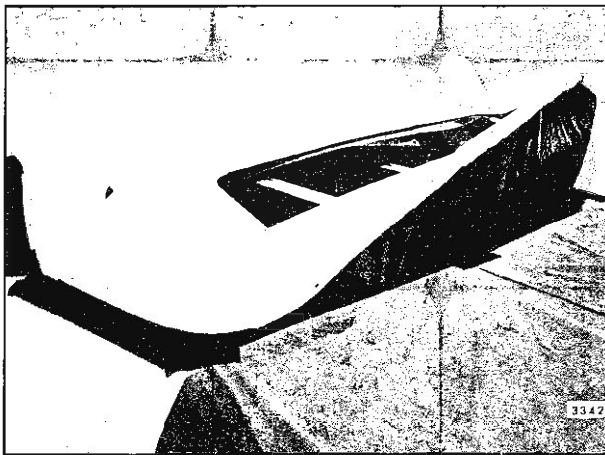

Fig. 13-33—Raising Balance of Trimstick "A" Styles
On "A" styles, with top two to four inches off header, move one end of trimstick inward for clearance. Then pry it upward between hinge and body to clear rear roof rail (Fig. 13-32). Raise removed end of trimstick upward and forward. Then continue by removing balance of trimstick above body belt line (Fig. 13-33 and 13-34).
- Position rear trimstick(s) into body in reverse of removal operation (See Steps 10 & 11 of Removal of Folding Top Cover Less Back Curtain, Fig. 13-33 or 13-35).